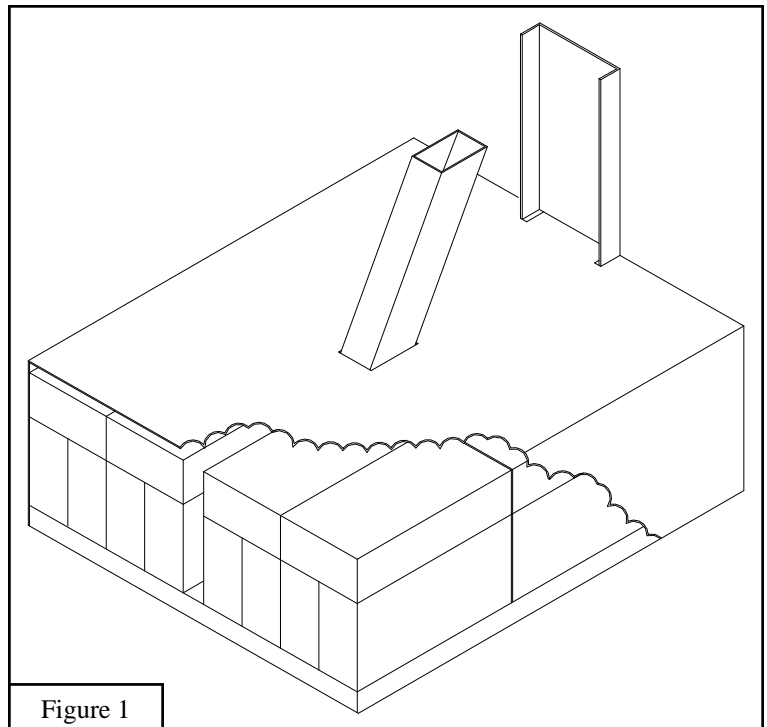

Figure 1
2. Open the rear ballast storage compartment by removing 4 screws. Do not remove the bottom 2 pivot screws. Pivot rear cover open and place (24) 4"x 8"x16" solid concrete CAP blocks (purchase separately) into the compartment. Make sure that the weight is evenly distributed. Reposition the rear cover. See Figure 1.